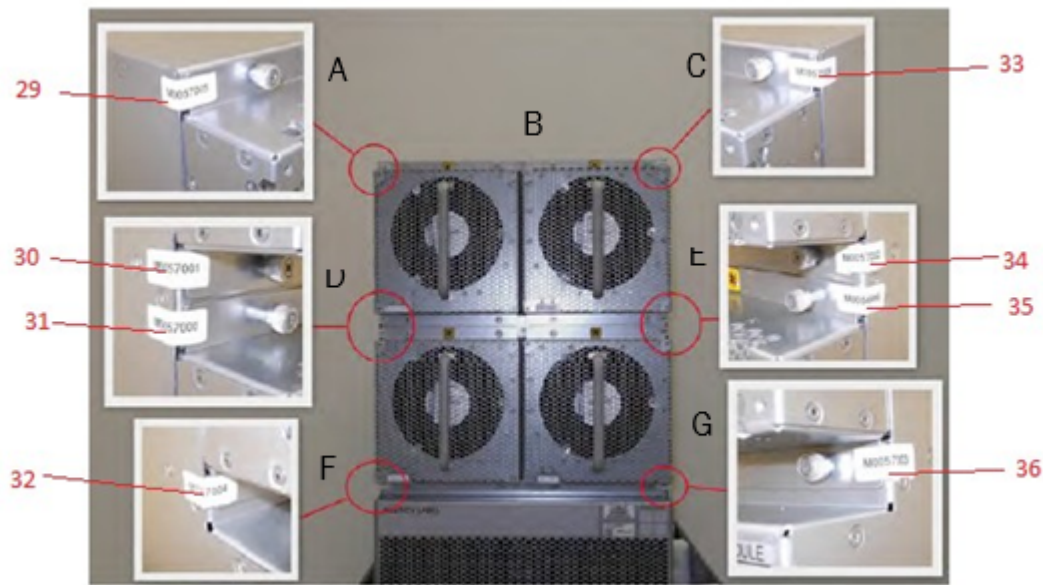

Figure 31 Brocade VDX 8770-8 Non-Port Side Seal Locations
Eight (8) tamper evident seals are required to complete the physical security requirements illustrated in Figure 31. All fan slots must be filled with a FAN FRU or FAN FRU filler panel to maintain adequate cooling.